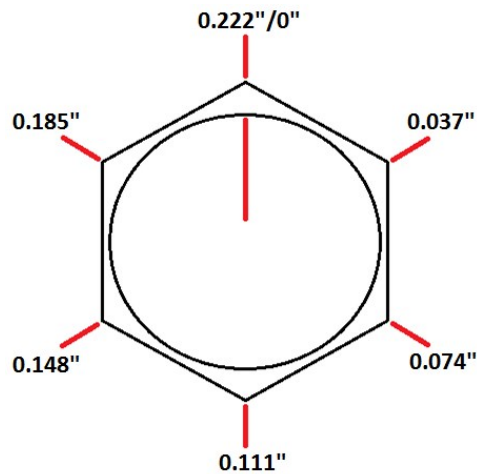

Figure 10-35: Example of Bolt Marking for Linear Travel Measurement
3. Mark the heads of the pusher bolts at the 12 o'clock position, and mark the plate at the desired adjustment intervals. Figure 10-35 shows an example. Values will differ based on bolt-specific threads.
2. Mark the heads of the pusher bolts at the 12 o'clock position, and mark the plate at the desired adjustment intervals. Figure 10-35 on page 74 shows an example. Values differ based on bolt-specific threads. See also Sections 10.3.8.2 and 10.3.8.3 for calculation guidelines.